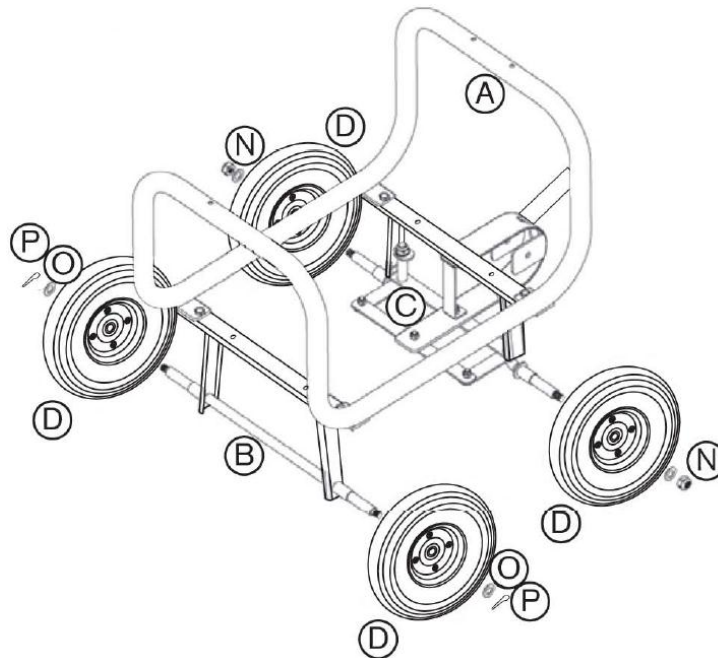

Figure 2
2. See Figure 2. Slide two flat-free tires (D) onto the front axle (C). Tighten with two 12mm lock nuts and washers (N). Next, slide two flat-free tires (D) onto the rear axle (B). Secure with one 16 washer (O) and one pin (P) on each side.